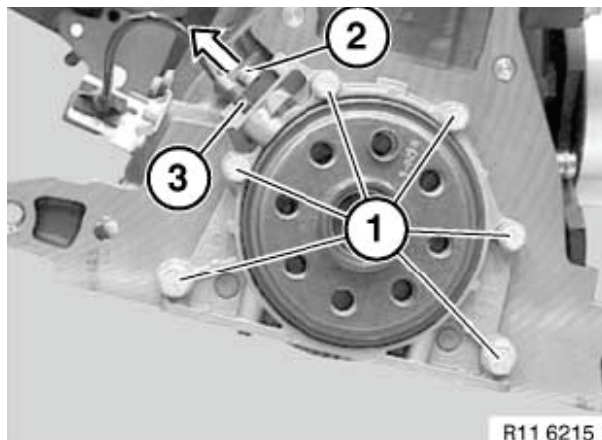

Figure 5-69
4. Remove bolt (**Figure 5-69, (2)**) and crankshaft sensor (**Figure 5-69, (3)**). *See Replace Crankshaft Sensor on page 12-24.*
5. Remove bolts (**Figure 5-69, (1)**) and remove rear crankshaft seal and housing as an assembly.